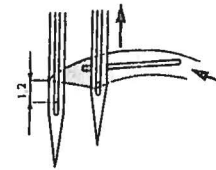

fig. 5
- Check that the point of the looper, in its stroke to the left, when it is exactly in the lefthand tangent of the outside needle, is 1.2 mm ($3/64''$) above the upper tangent of the outer needle eye (fig 5)